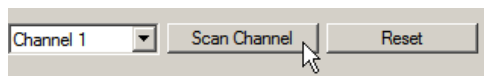

Figure 15: LINX Configurator software, scan DALI Channel.
2. Select the DALI channel and click on the **Scan Channel** button shown in Figure 15.